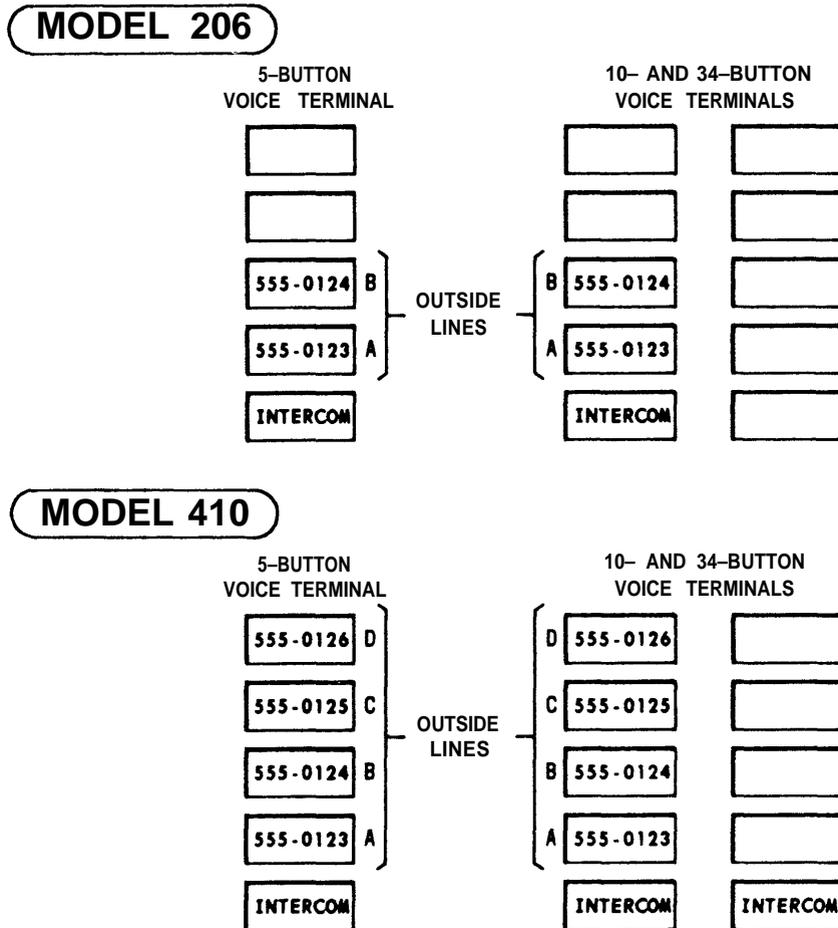

Figure 20
- Touch the desired line button (Figure 20). The red light next to the line button should go on.
- ❑ 6. Place an intercom call to another voice terminal by touching the intercom button (Figure 20), picking up the handset, and dialing an intercom number.